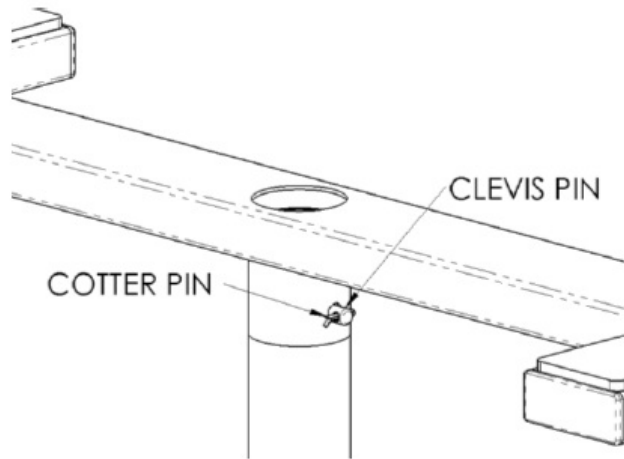

FIGURE 2
2. If you have a 7 foot ceiling, do not use Extension Tube (ITEM-2). Attach the Upper Frame (ITEM-1) directly to ITEM-3 by aligning the holes in ITEM-1 and ITEM-3 and inserting the Clevis Pin (ITEM-6) through the holes. After the Clevis Pin is inserted, place the Cotter Pin (ITEM-7) through the hole of the Clevis Pin as shown in Figure 2.
3. If you have an 8 to 10 foot ceiling, attach the Upper Frame (ITEM-1) to the Extension Tube (ITEM-2) by aligning the holes and inserting the Clevis Pin and Cotter Pin as shown in Figure 2.